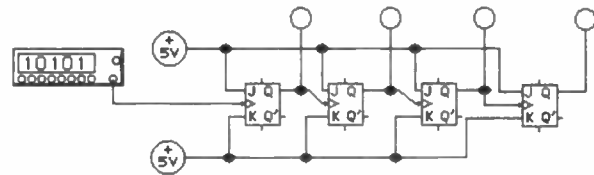
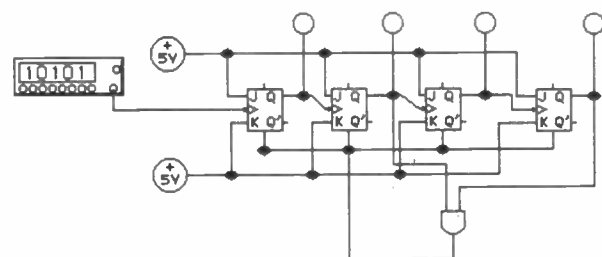

Fig. 8.22 Four-stage binary counter (see Assignment 8.2).
Fig. 8.23 Decade counter (see Assignment 8.2).
1. Connect the arrangement shown in Fig. 8.22. The clock input is derived from the Word Generator's clock
- Apply clock pulses to the circuit shown in Fig. 8.22 and observe the state of the Q outputs (you may find it useful to construct a timing diagram after each clock pulse is applied). Check that each stage divides by two (i.e., its output is at half the frequency of the preceding stage). Check that the complete arrangement requires 16 clock pulses in order to produce one output pulse cycle (i.e., check that the circuit divides by  $2^4$  or 16).
- Modify the arrangement shown in Fig. 8.22 by adding a two-input AND gate, as shown in Fig. 8.23. Note that the output of the AND gate drives the CLEAR inputs on all four J-K bistables.
- Apply clock pulses to the circuit shown in Fig. 8.23 and observe the state of the Q outputs (you may find it useful to construct a timing diagram after each clock pulse is applied). Check that the complete arrangement requires 10 clock pulses in order to produce one output pulse cycle (i.e., check that the circuit divides by 10).